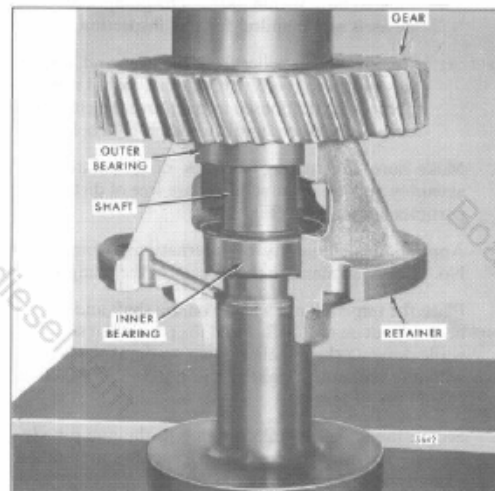

Fig. 16 - Pressing Gear on 12V-92 and 16V-92 Water Pump Shaft using Tool J 25257
4. With gear installer J 25257 positioned on the threaded end of the shaft, place the bearing retainer assembly on the bed of an arbor press (Fig. 16). Tool J 25257 will hold the shaft vertically to ensure the gear is pressed squarely on the shaft. Press the gear on the shaft so that it is flush with the end of the shaft.